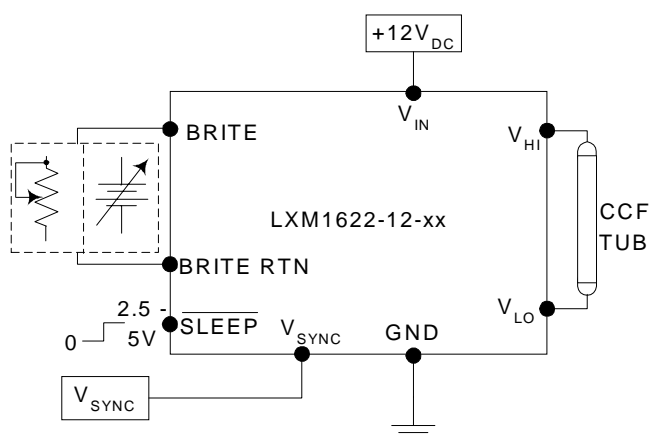
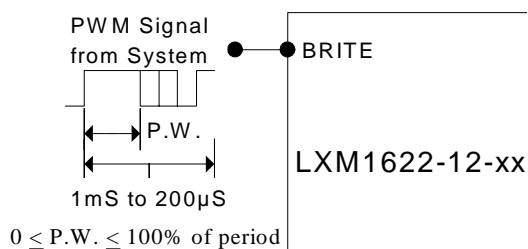

Figure 5 - Brightness Control
Figure 5A - PWM Brightness Control
- The Brightness control may be a voltage output DAC, digital resistor or a simple 10K potentiometer, or other voltage source, as shown in Figure 5. A 2.5V to 5V Logic Level PWM signal from a micro-controller may also be used as shown in Figure 5A.